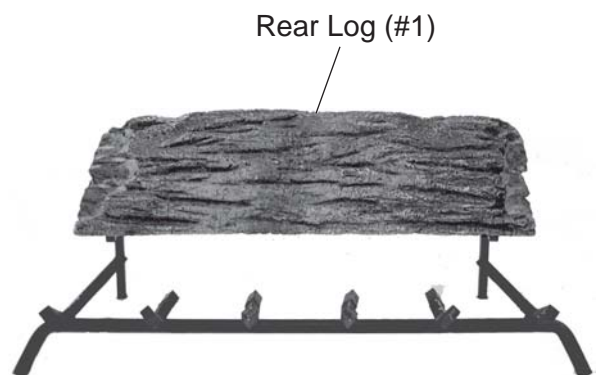

Figure 26 - Centering Rear Log (#1) on Grate Bars
2. Center rear log #1 on grate bars and flush with rear of the grate. *See Figure 26.*